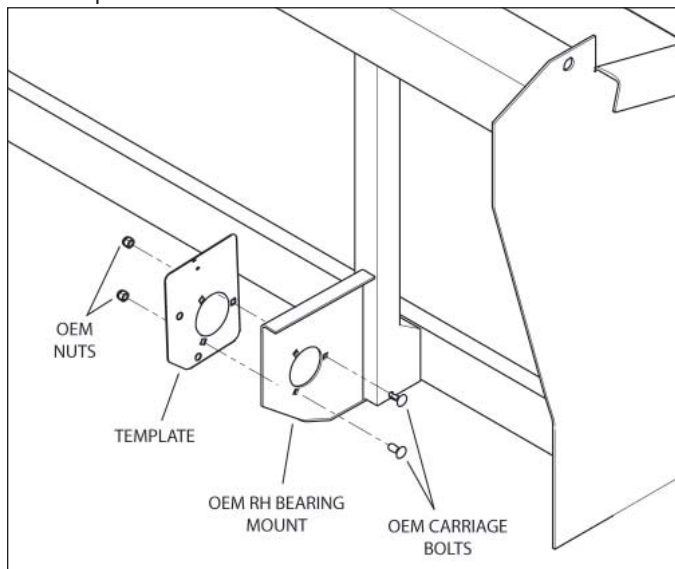

Figure 12, Using the template to drill holes
1. Use OEM hardware to bolt the provided template to the OEM RH bearing mount (Figure 12). Use the template holes as a guide to drill through the OEM mount. Drill  $7/32$ " through the top two template holes. Drill  $17/32$ " through the remaining two holes. When finished, remove the OEM bolts and template.